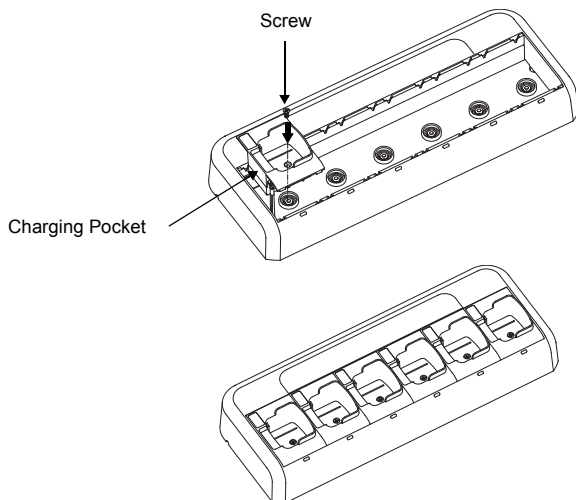

Figure 2: Removing Charging Pocket
3. Remove the Pocket Harness by pulling straight up on the connector (refer to Figure 2).